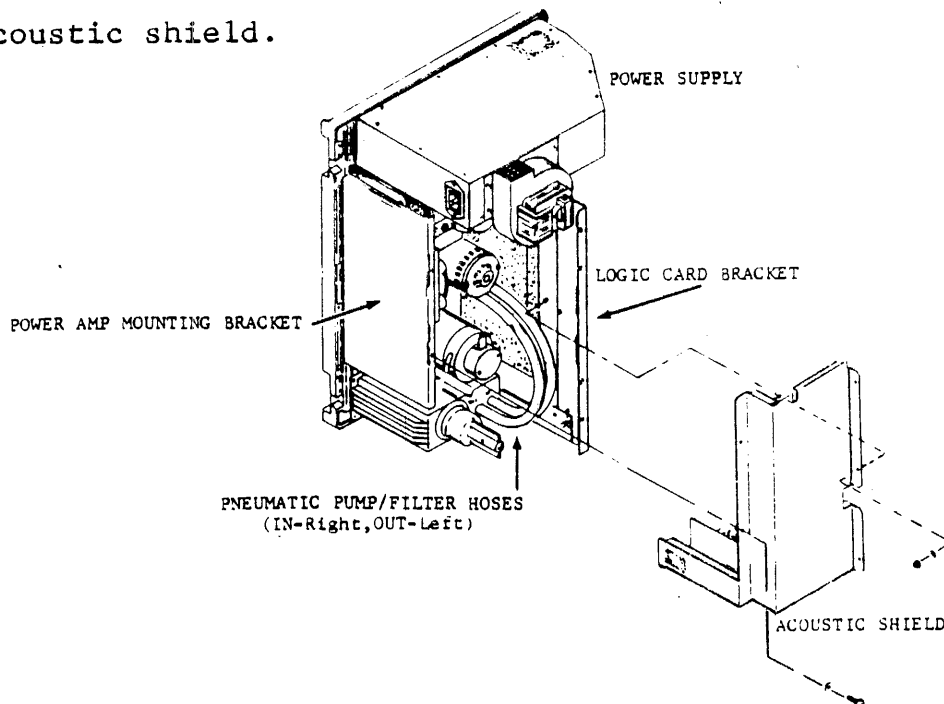

Figure 6-26A. ACOUSTIC SHIELD ASSEMBLY (UNMOUNTED)
4. Disconnect both hoses from filter assembly (Figure 6-26A). To prevent incorrect replacement, temporarily label hoses IN or OUT.